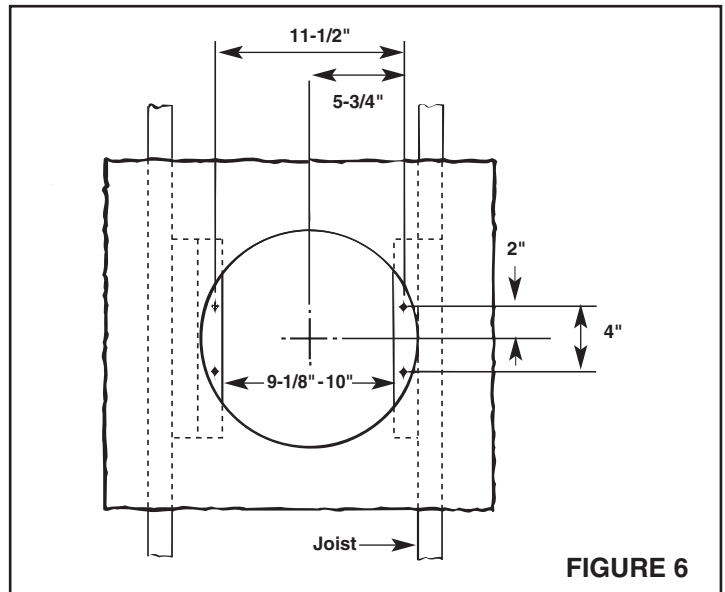

FIGURE 6
7. **Refer to Figure 6.** Install 2 x 4 cleats to both ceiling joists. In some cases it may be necessary to use more than a single cleat on one side. The distance between cleats must be at least 9 1/8" but not more than 10".